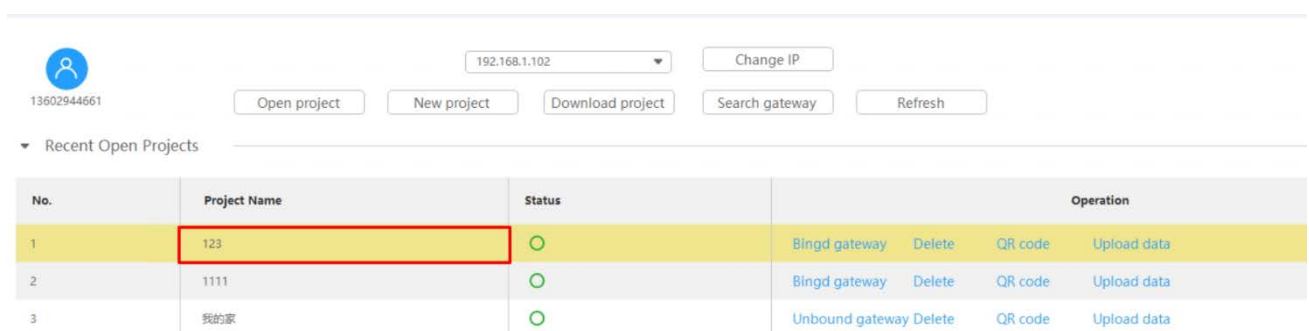

Figure 2-4 Double Click the Project Selected
- As shown in Figure 2-4, double click the row anywhere to enter the configuration page for the project.
- As shown in Figure 2-4, click “Project Name” to change as needed.
- As shown in Figure 2-4, click the “QR code” located in the column “Operation”, then scan it via HDL ON+ App to enter the project and proceed.
- As shown in Figure 2-4, click “Download Project” to enter the download page. As shown in Figure 2-5, click “Download Project” or “Delete” to proceed.